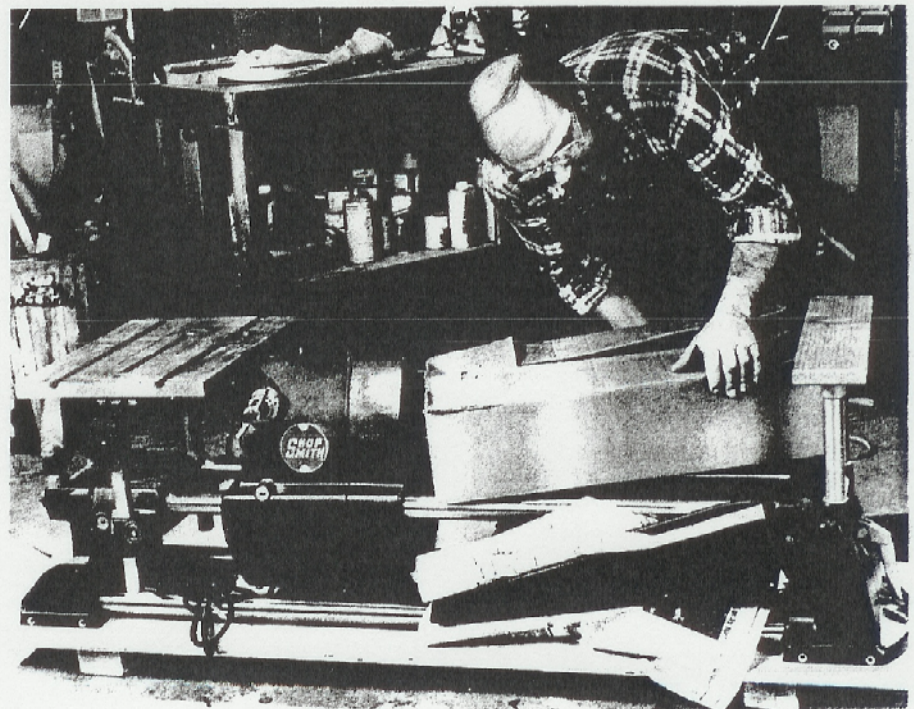

Figure 5. Place the box of accessories on the way tubes, in between the headstock and the extension table.
5. Pack the remaining accessories in a cardboard box approximately 8" x 12" x 18", wrapping them individually in newspaper. Tape the box closed. Move the headstock to the right on the way tubes, up against the carriage, and secure the headstock lock. Place the box of accessories on the way tubes, in the space between the headstock and the extension table. (See Figure 5.)